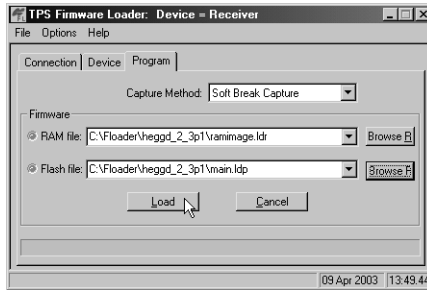

Figure 4-20. Program Tab Settings
3. Select the **Program** tab and set the Capture Method to Soft Break Capture (recommended) (Figure 4-20).
4. Browse for and select the receiver board's RAM file and Flash file (Figure 4-20).